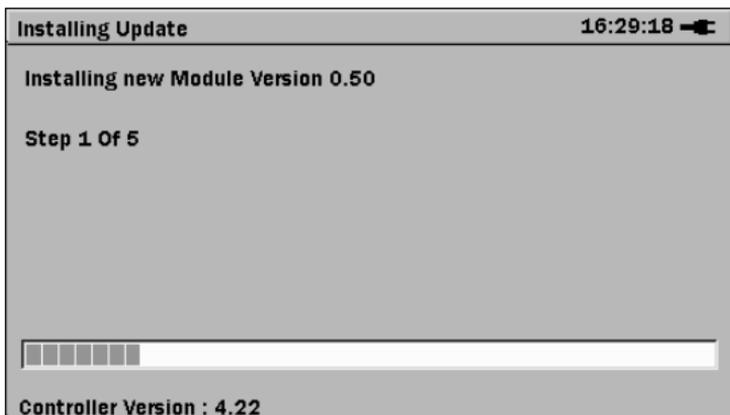

Figure 6-3: Initial Installing Update Screen
5. Press the **Set key** to continue. The initial Installing Update screen appears (see Figure 6-3).